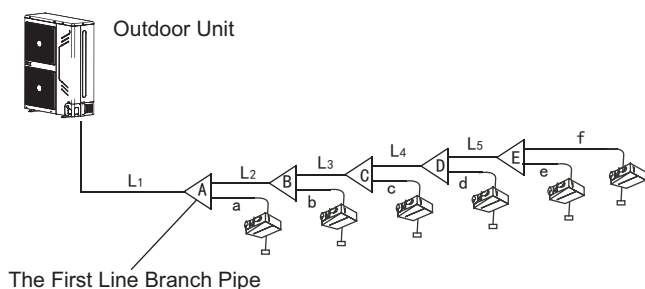
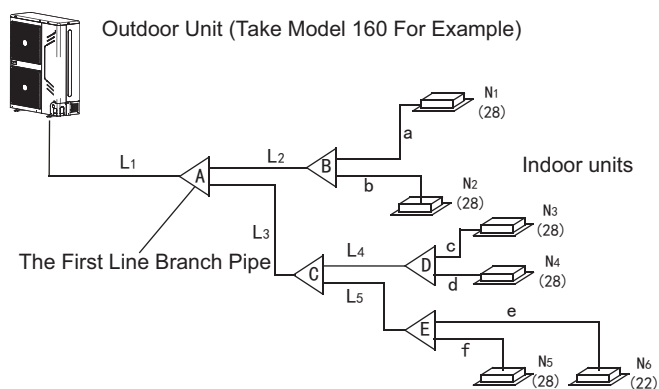
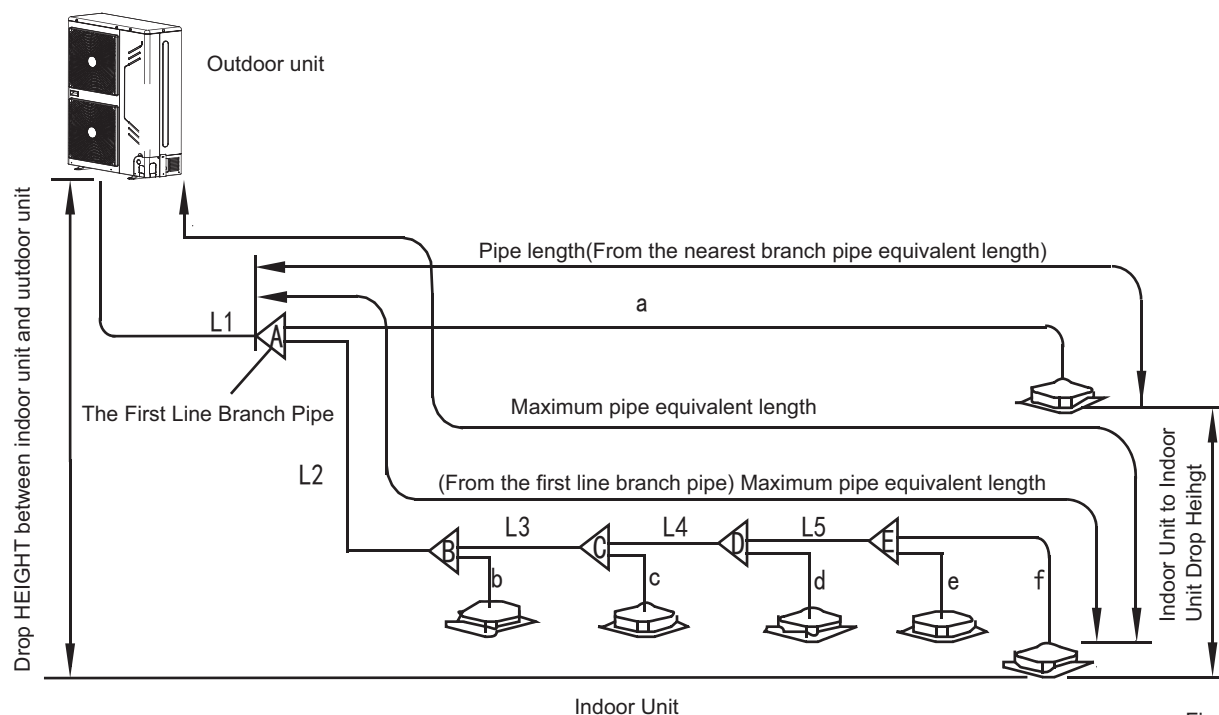

Fig. 4-4
Fig.4-6
Fig.4-7
- Main pipe (Please refer to Fig.4-6 and Fig.4-4)
In Fig.4-6, the main pipe L1, the outdoor unit capacity is 16kW, and check the Fig.4-7 to get the size of gas pipe/liquid pipe is 19.1/9.5, and also the total equivalent length of liquid side and gas side pipes is $> 90\text{m}$, then check the Fig.4-4 to get the size of gas pipe/liquid pipe is 22.2/9.5, and according to the maximum value principle, it should apply the $\Phi 22.2/\Phi 9.5$.